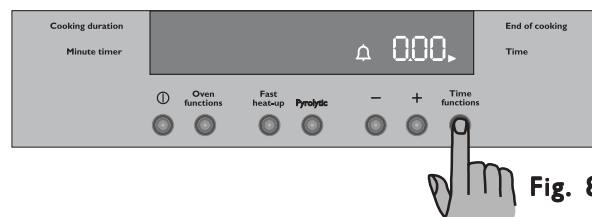

Fig. 8
- 1) Press Time functions button to select the Minute timer function (Fig. 8). The relevant  symbol will flash and the control panel will display "0.00".